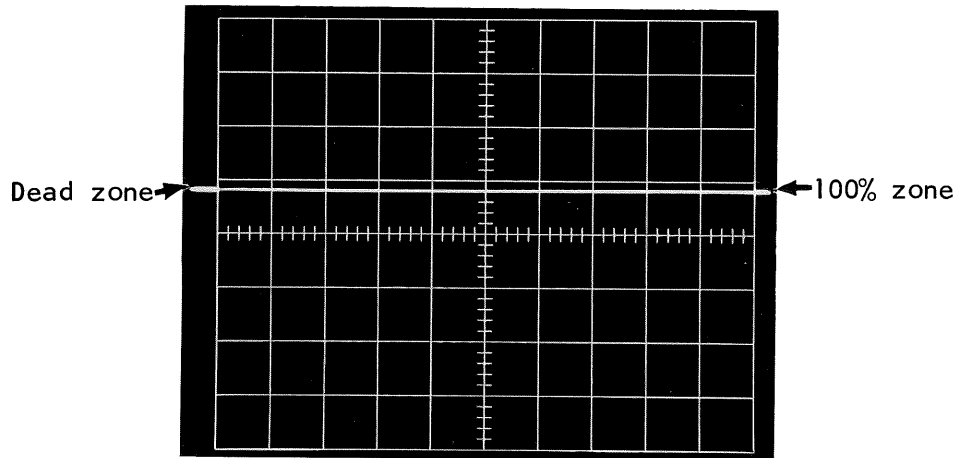

Figure 2-18
2. Set the B 100% ZONE POSITION control full CW. The 100% zone must go 8.5 divisions from the start of the trace. See Figure 2-18.